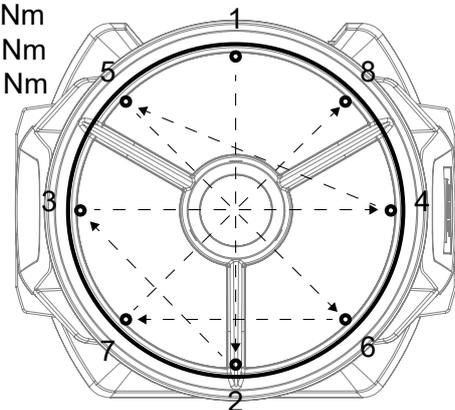

Figure 33 Criss-cross mounting
2. When mounting the front ring, cross-tighten the permabond treated screws as illustrated on figure 33. Make sure to tighten the screws with increasing torque over three cross-tightening sequences to ensure the correct ingress protection